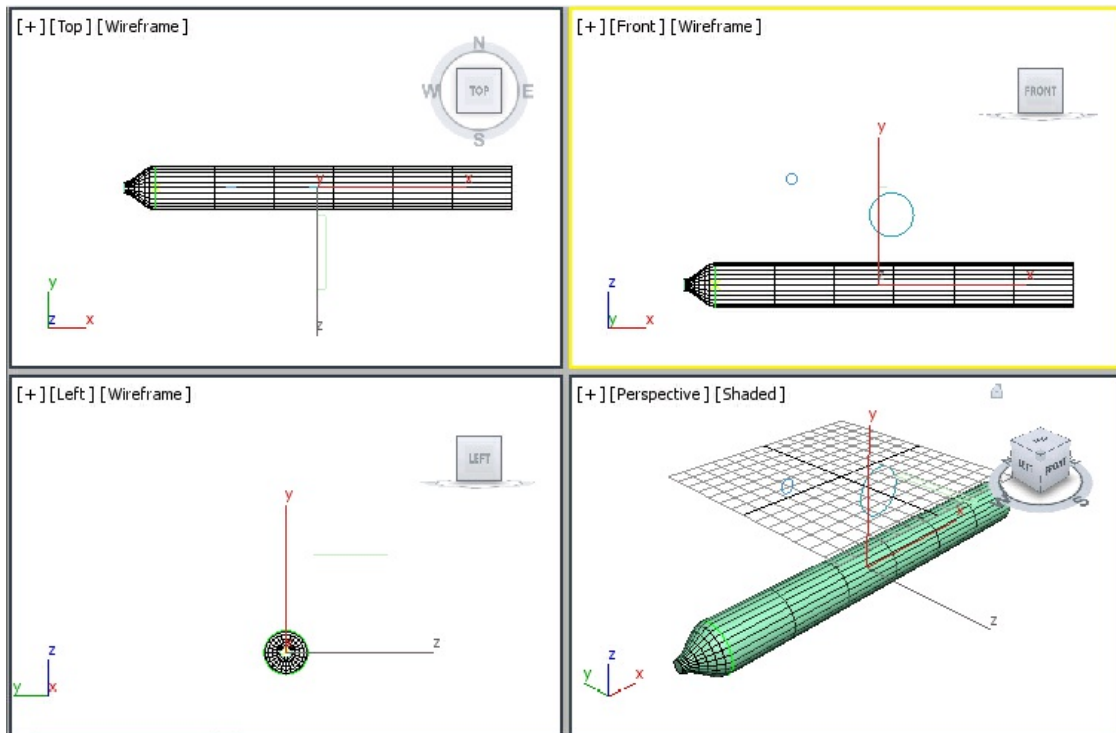

Figure 11-63 *The shape of the tube created along the path spline*
13. In the **Creation Method** rollout, choose the **Get Shape** button and move the cursor over *Circle002* in the Front viewport; the shape of the cursor changes. Select *Circle002*; the shape of the tube is created, refer to Figure 11-63. Again, choose the **Get Shape** button to exit the command.